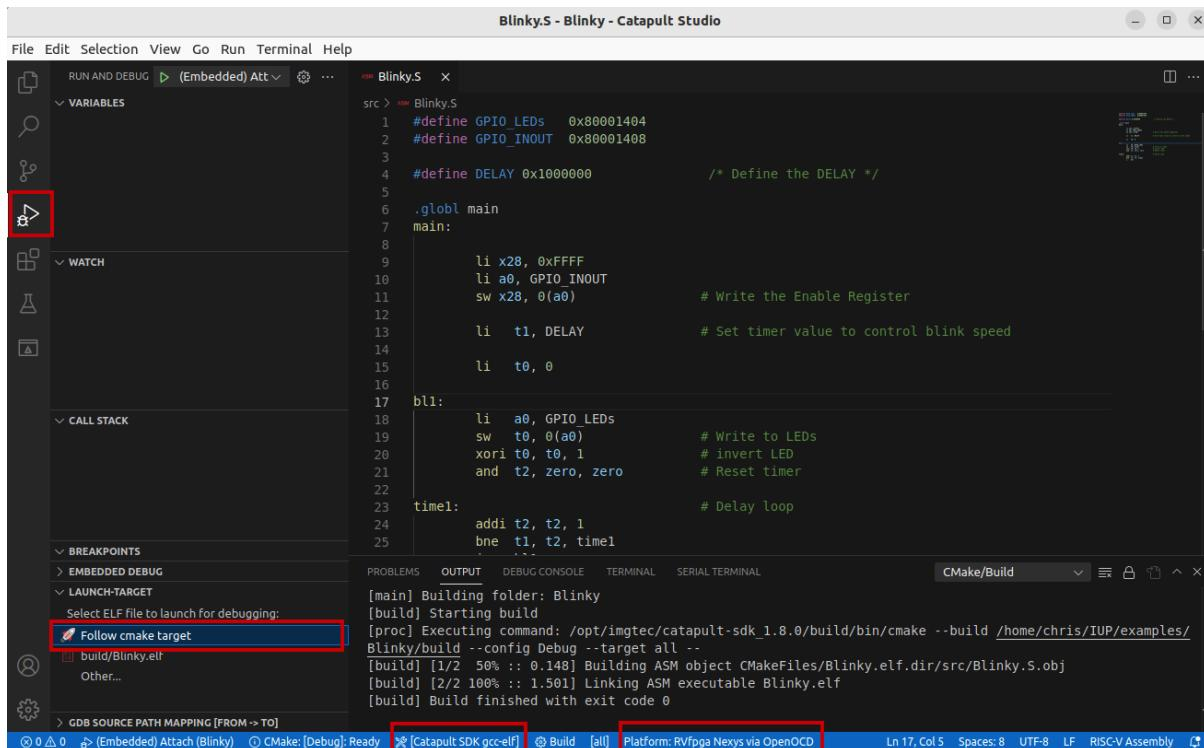

Figure 43. blinky.S in Catapult Studio
5. Select “RVfpga Nexys EL2 DDR via OpenOCD” as the platform and “Catapult SDK gcc-elf” for the toolchain. Select “Follow cmake target” in the LAUNCH-TARGET box in the Run and Debug panel (Figure 43).